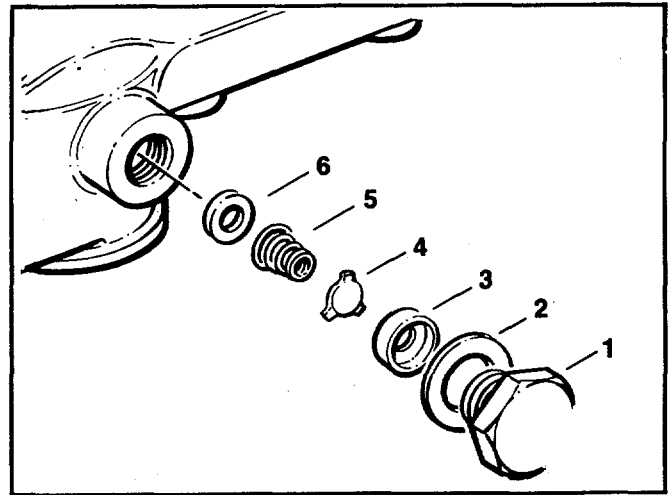

Fig. 7-32. Filter Bypass Valve - Exploded View.
8. Check the filter bypass valve to make sure the valve works freely, Fig. 7-32.